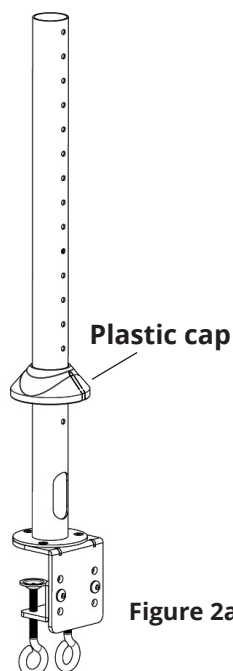

Figure 2a
3. Install the Plastic cap over the 48mm Tube support, see Figure 2a. This step is optional. The plastic cap covers the mounting surface to provide a cleaner installation.